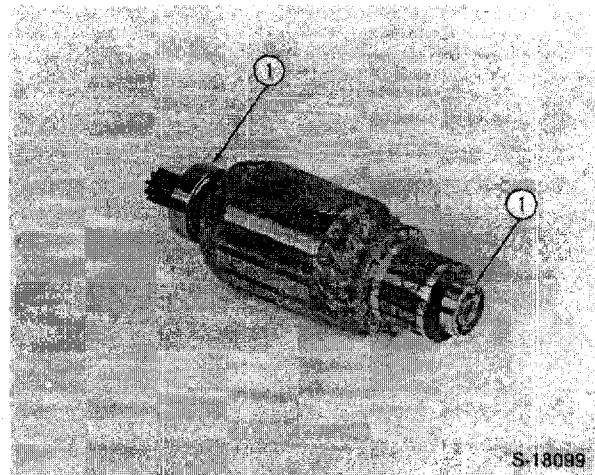

Figure 40
6. If necessary remove the ball bearings from the armature using a suitable puller, Figure 40.